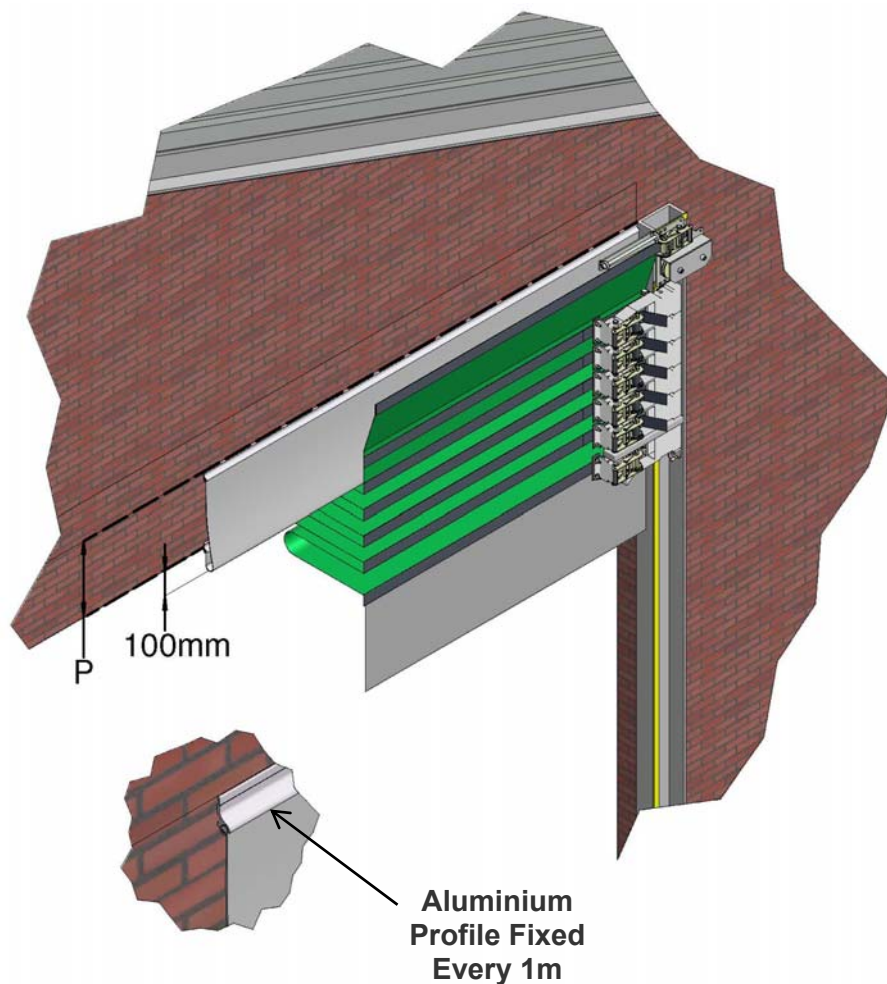

Figure 16
17. Galebreaker® Pelmet: If required it is fixed along the full width of the opening between the top of the tracking and the bottom edge of the cladding. The Pelmet material is secured in place with a 45mm high Aluminium profile along the top and bottom (Figure 16). This profile needs to be placed on a level surface with fixings at a maximum distance of 1m, ensure the building face conforms to these requirements
When ordering please supply height P as shown on Figure 16. Note that: